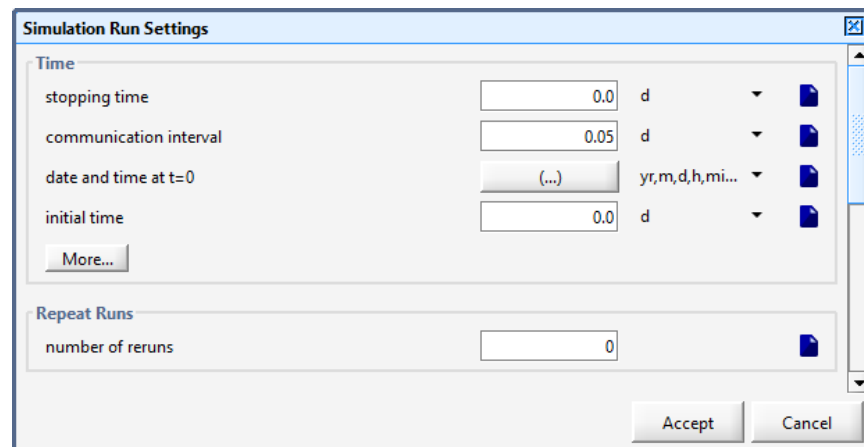

Figure 8-15 – Simulation Run Settings Dialog (Repeat Runs)
2. Select the **Layout > General Data > System > Input Parameters > Simulation Run Settings** menu item. The dialog window is displayed as shown in **Figure 8-15**.